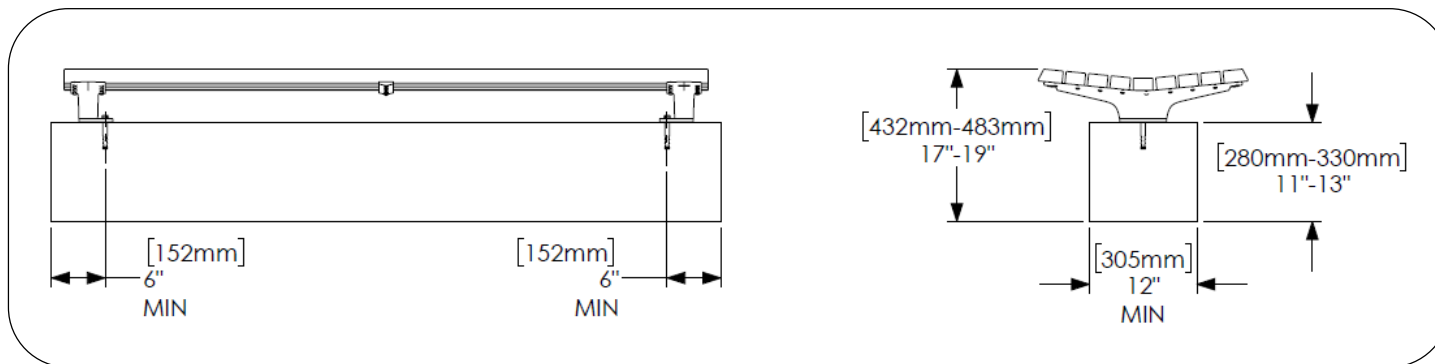

Fig. 2 – wall recommendations backless bench
2. Place unit in desired position and mark anchor locations through holes provided in base plate. See Figures 2 and 3 for minimum concrete base requirements.